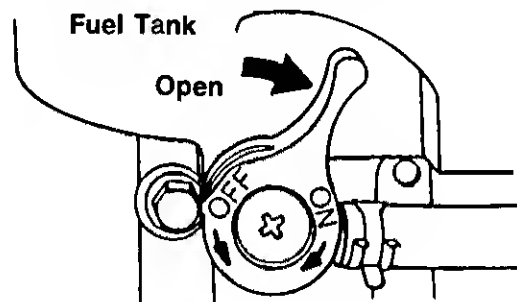

FIGURE 23.—Model 120898R Only
3. **Model 120898R Only:** The fuel shut-off valve is located beneath the fuel tank. The fuel shut-off valve should be in the open position. See figure 23. Open fuel shut-off valve if it is closed.